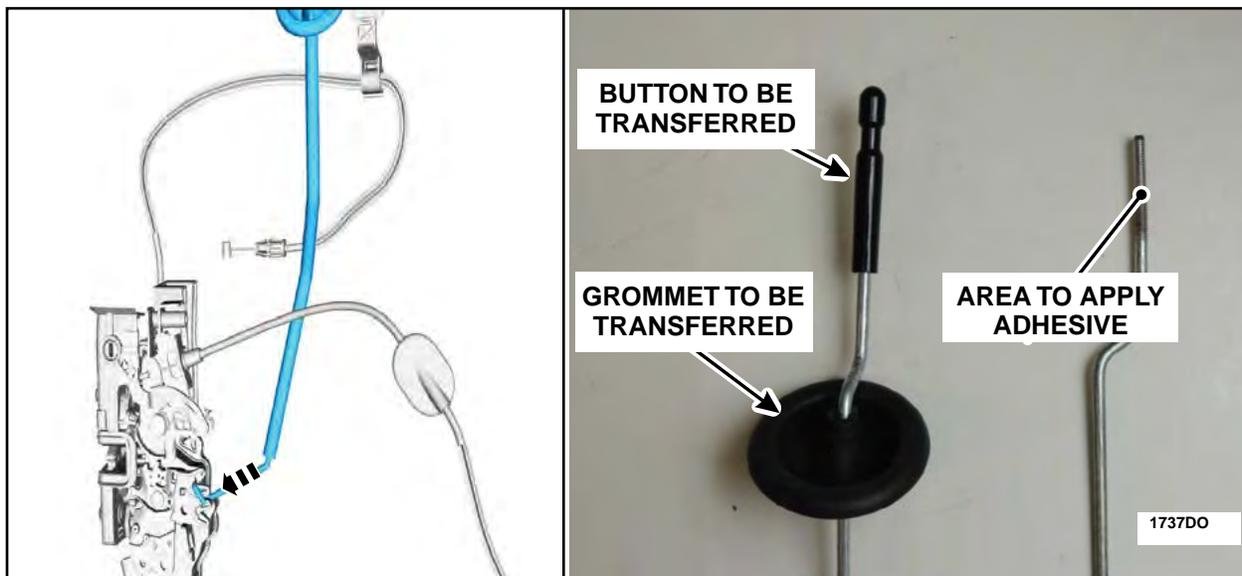

FIGURE 58
8. Lock rod replacement procedure. See Figure 58.